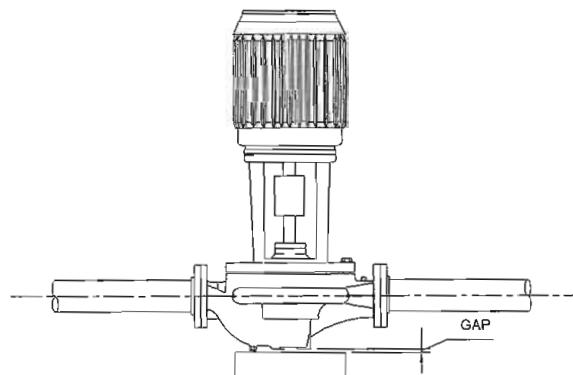
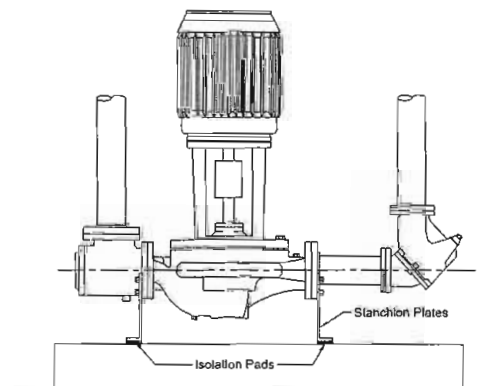
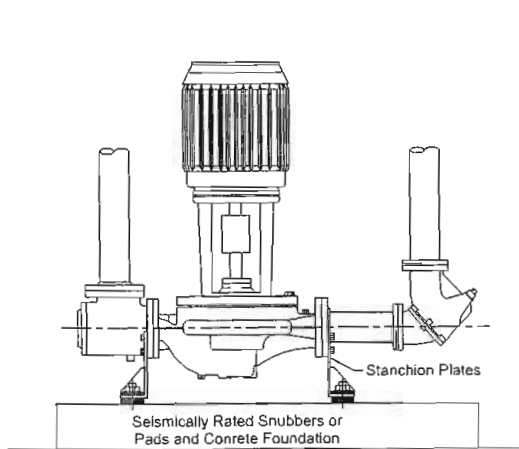
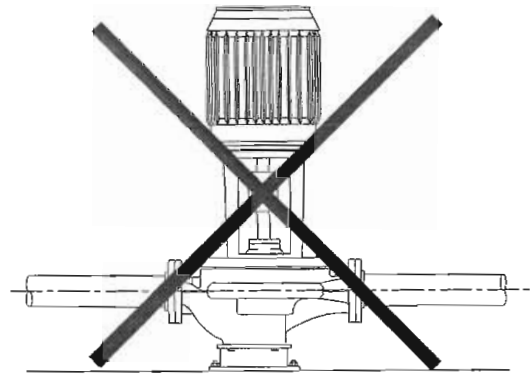

Fig. 2.4 Additional Floor Support
Fig. 2.5a Mounting VIL with Stanchion Plates
Fig. 2.5b Seismic Region Installation
Fig. 2.7 Not Recommended – Rigid Base
- 2.4. Where required, additional floor support may be used as shown in Fig. 2.4. Note that the pump should not be rigidly attached to the column. Leave a small gap between pump and column or install a 'waffle' isolation pad under the pump. It is critical that piping be installed in such a manner that the pump does not become a pipe support.
- 2.5. Flange mounted stanchion plates can be used on pump flanges. Fig. 2.5a indicates stanchion plates as pump legs that may be supplied for installation convenience. As with Fig. 2.4, 'waffle' style isolation pads must be used under the legs and pipe hangers adjusted to ensure the pump casing is not a piping support. Fig. 2.5b uses the stanchion plates along with seismically rated isolation pads or snubbers to restrain the pump during a seismic event. Again it must be stressed that pipe hangers carry the weight of the equipment as seismic components are designed only to restrain the equipment during a seismic event.
- 2.7. DO NOT rigidly connect the pump to a permanent base (Fig. 2.7). This is similar to the notes under Fig. 2.4. Note that if the pump must be connected to a permanent base, the pump becomes a base-mounted unit and must be isolated from the piping by flexible connectors and the base isolated from the building structure on an inertia base.